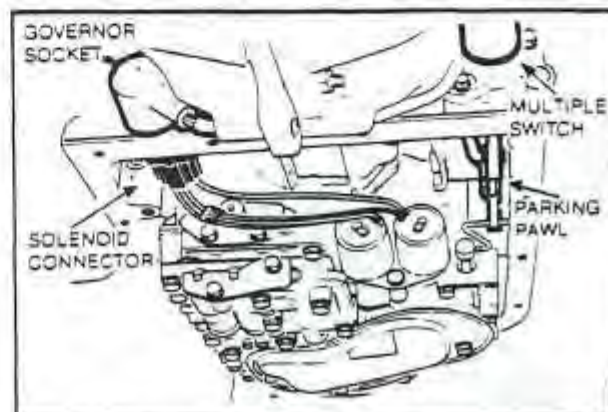

Fig. 20 GOVERNOR COMPUTER REMOVAL
7. Remove the sealed socket from the transmission case. *Fig. 20*
3. Remove the clip retaining the parking pawl from the quadrant and remove parking pawl. *Fig. 20*